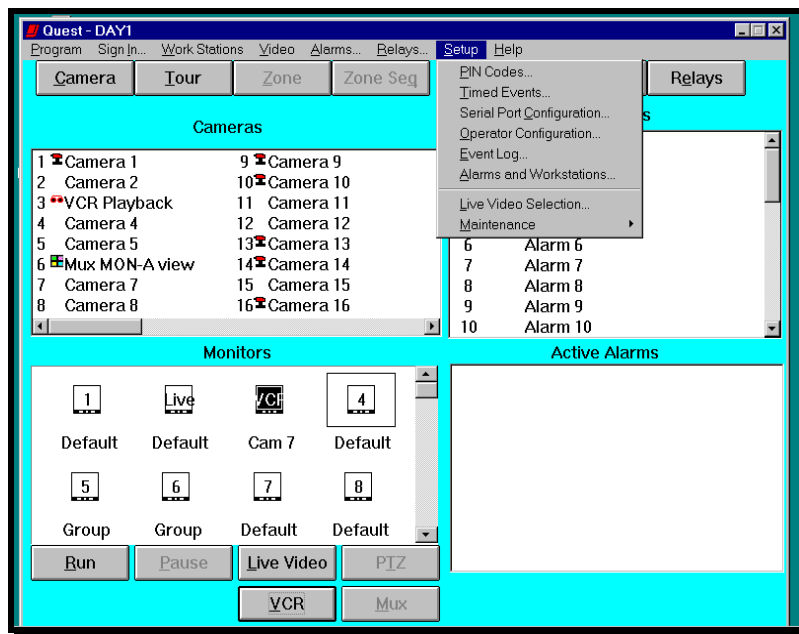
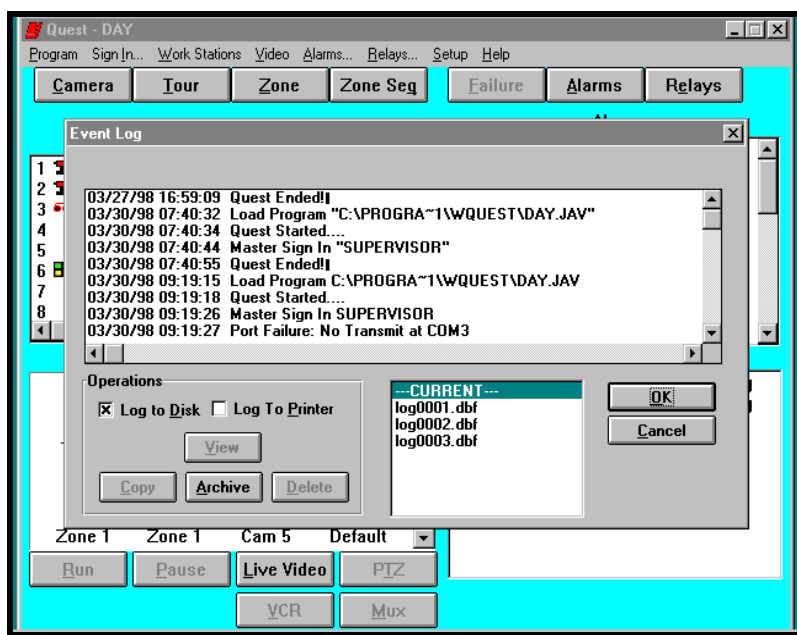

Figure 2-18. Setup Selection Menu
Figure 2-19. Current Event Log
1. Select Event Log from the Setup menu (Figure 2-18). The current event log will be displayed in the Event Log dialog box. The Dialog Box is illustrated in Figure 2-19.